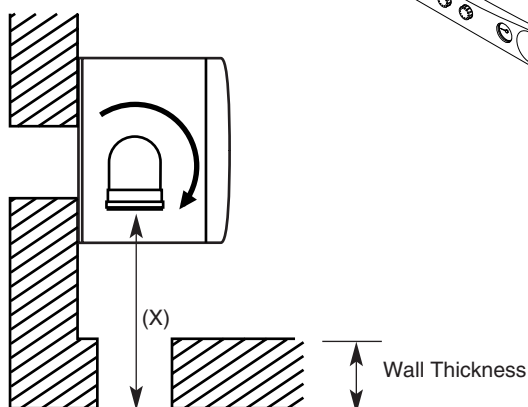

Fig. 25
3. Measure the distance from the outside wall face to the elbow. This dimension will be known as 'X' (Fig. 25).